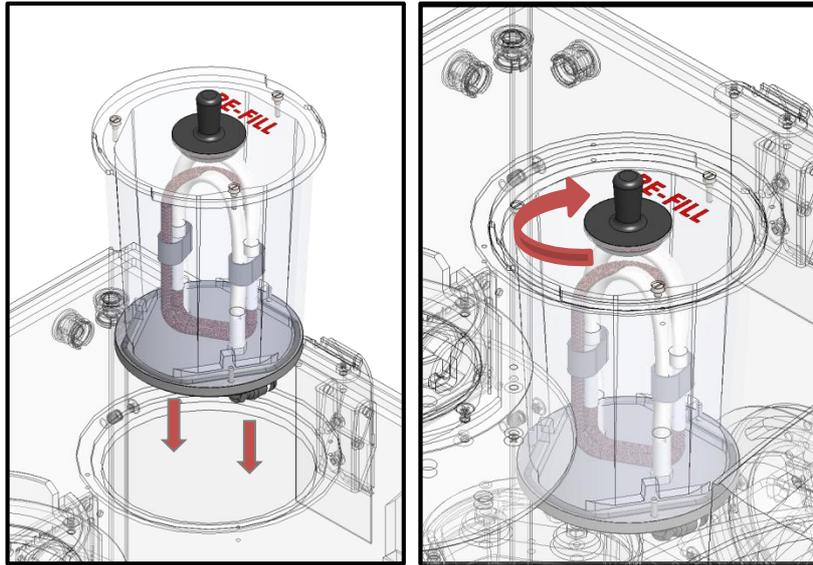

Figure 57.HM-VF inserting in the appropriate slot
- A. **Humidity Module (included in HM-VF) positioning on the enclosure top panel.** You can insert this part of the HM-VF also at the end of the assembly of the whole cage. See Figure 57.